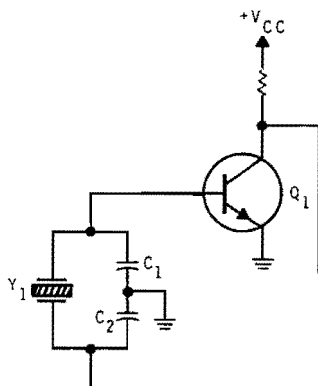

Figure 5-47
35. (decreases) Figure 5-47 shows a crystal modification of a basic Colpitts oscillator. In this oscillator, the crystal operates in its parallel-resonant mode, replacing the tank inductor. This is known as a \_\_\_\_\_ oscillator.